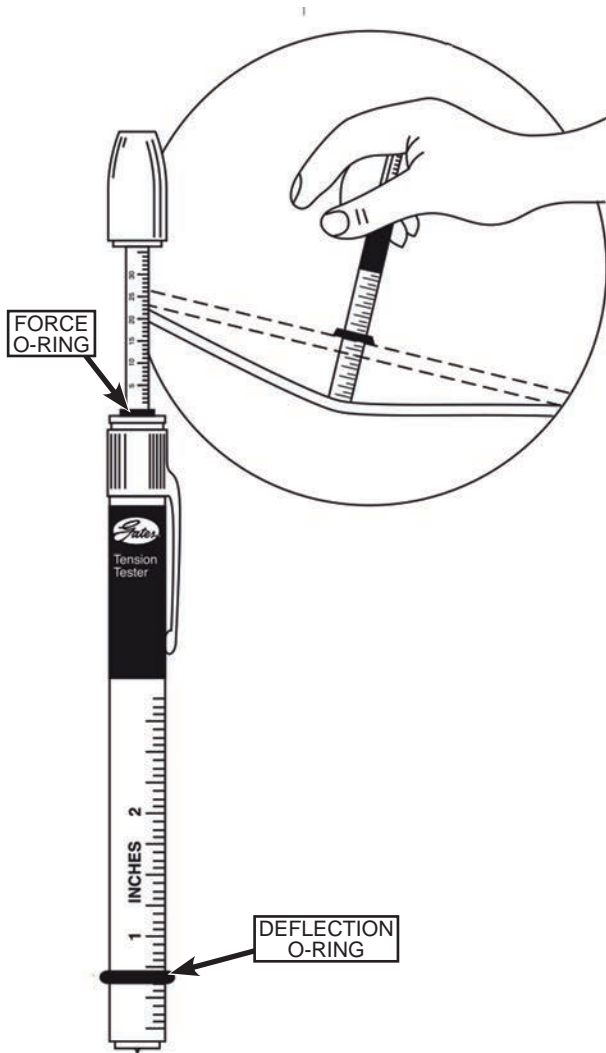
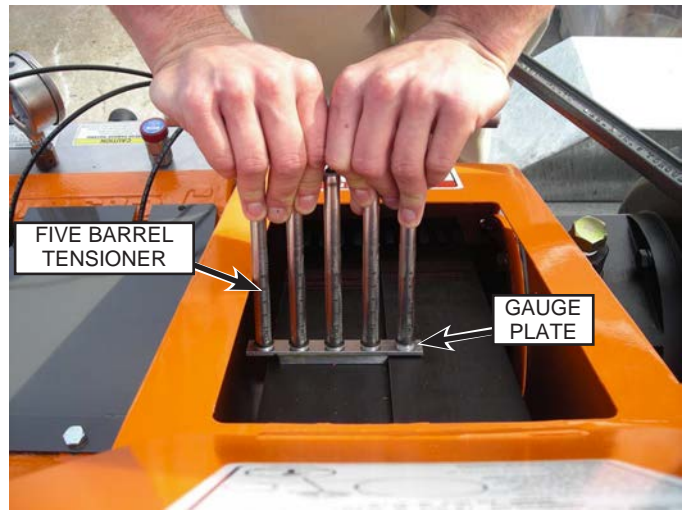

Fig. 116: Single Belt Tension Tester
Fig. 117: Power Band Tensioning
4. Adjust the deflection O-ring (Fig. 116) on a belt tension tool for the proper deflection as specified on the decal. Slide the force O-ring to the bottom of the scale. Use a five barrel tension tool if power bands are used on your unit. See Fig. 117.
5. Position the tension tool in the middle of one of the belts mid-way between belt pulleys. Press on the tool until the deflection O-ring is even with the adjacent belt. On five barrel tensioners, press until the gauge plate (Fig. 117) touches the adjacent belt.
6. Release pressure and inspect the reading at the bottom edge of the force O-ring(s) (Fig. 116) on the tension tool. Adjust the belt if necessary. Refer to "Adjusting Belt Tension".